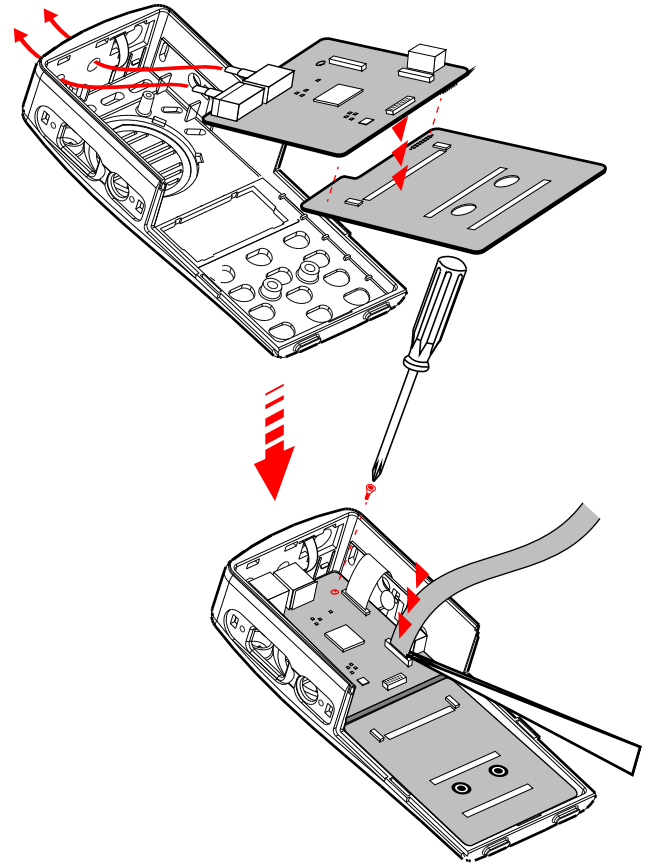

Figure 1-8 Replace Controller Board and Display Board
1. Hold the display board in such a manner that the connector is situated at the top right-hand corner (Figure 1-8).
2. Align the connectors of the controller board and the display board and press firmly to connect the two boards (Figure 1-8).
3. Carefully slide the boards into the housing at a 45 degree angle. Care should be taken as the volume and channel shafts are inserted into the openings of control top (Figure 1-8).
4. Fasten the Controller board to the housing with the TORX® head screw (Figure 1-8).
5. Insert the tail from the speaker flex into the connector and lock the latch on the connector (Figure 1-8).